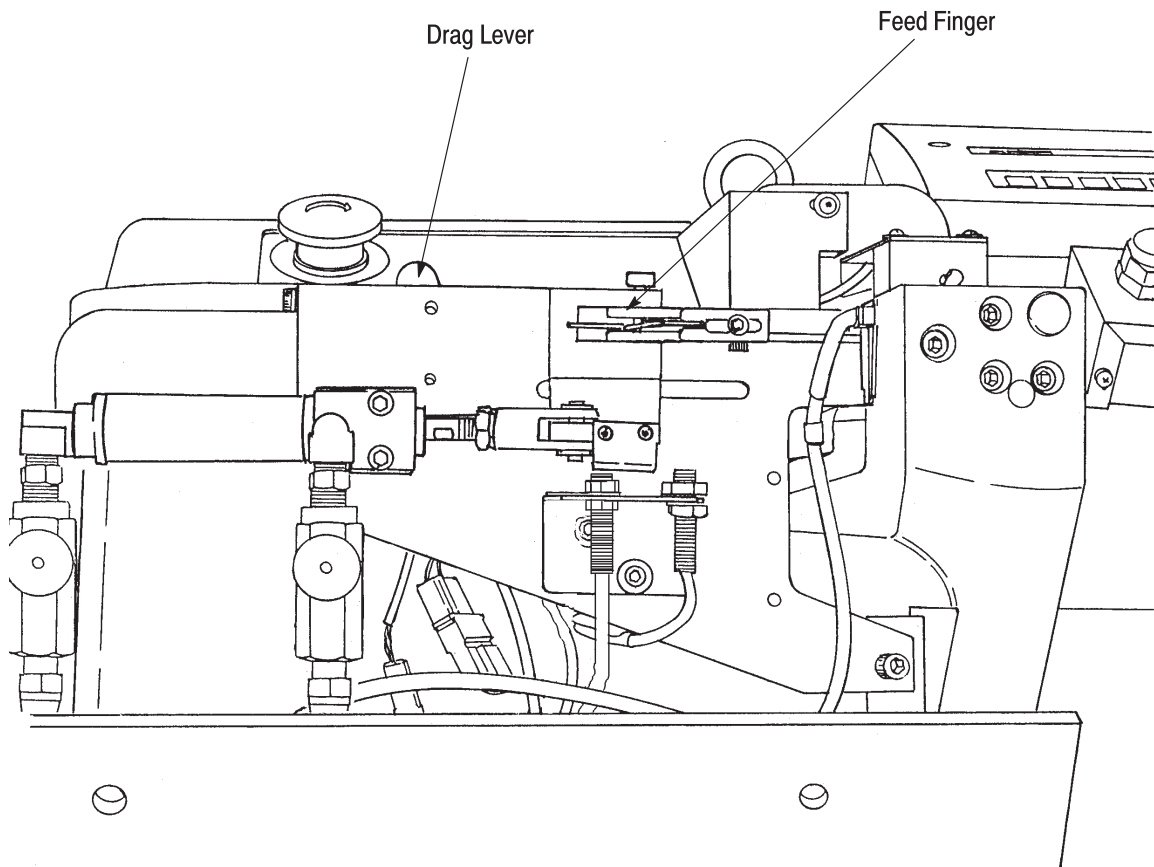

Figure 14
1. With terminal strip loaded into the APT, as described in Paragraph 4.3, disengage and hold the feed finger (Figure 14) while checking the drag on the terminal strip. The drag must be adjusted so that it applies enough pressure to prevent pullback of the strip by the feed finger. If adjustment is required, refer to Paragraph 6.2. After checking the drag, reposition the first terminal as described in Paragraph 4.3.